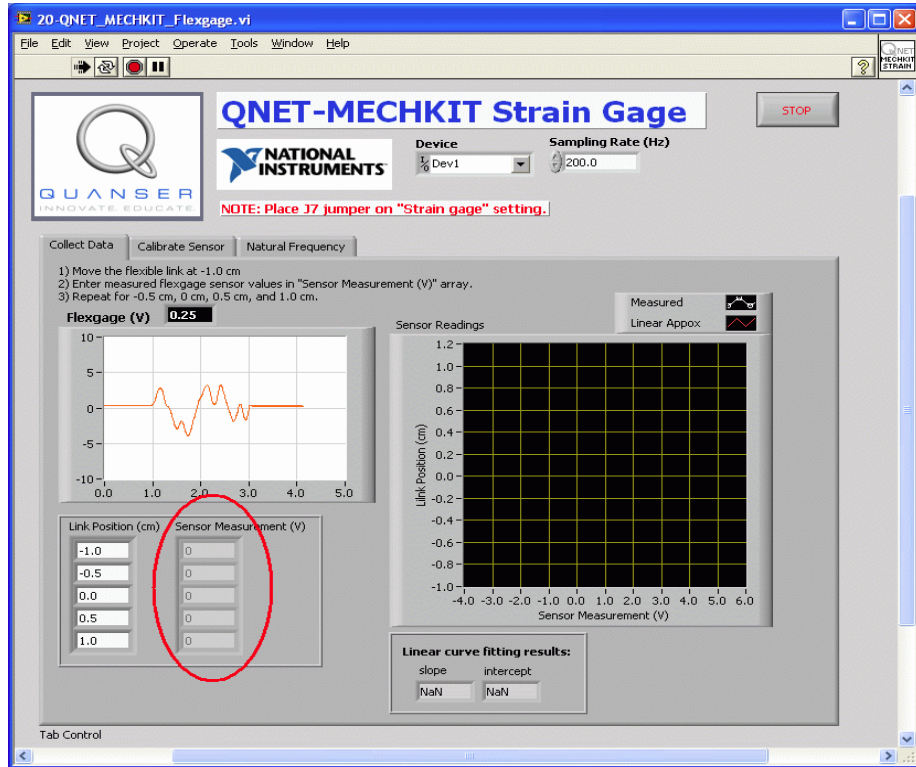
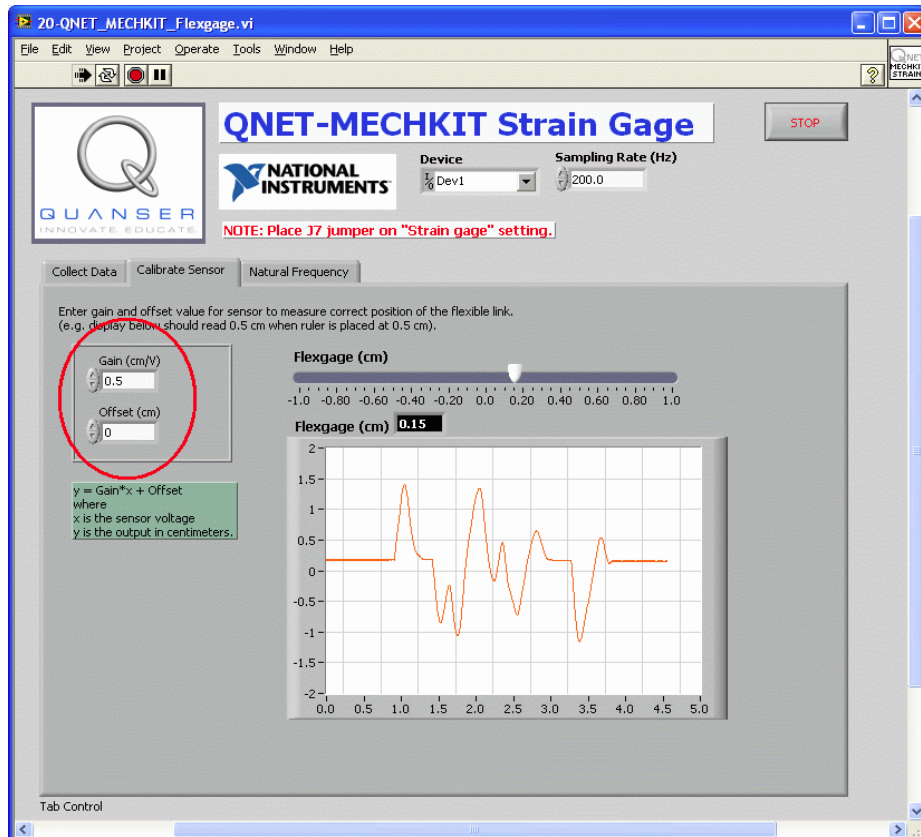
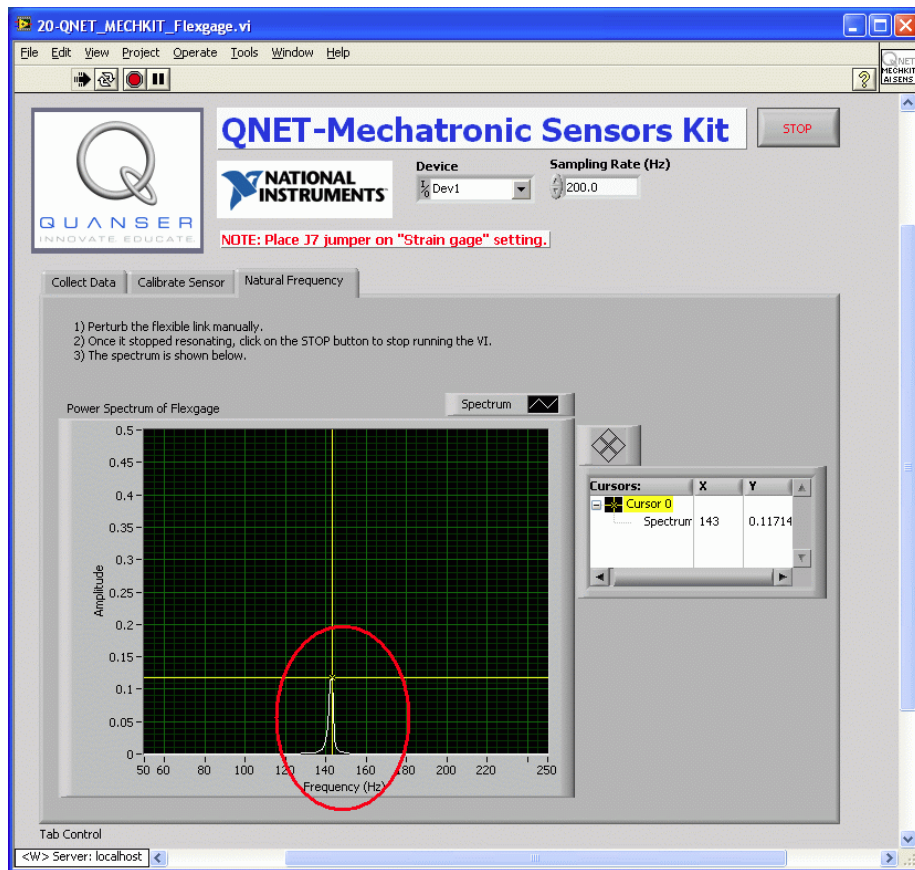

Figure 3.2: Collecting flexgag data
Figure 3.3: Calibrating the strain gage sensor
Figure 3.4: Finding natural frequency of flexible link
The virtual instrument used to collect data using the strain gage is shown in Figure 3.2. The virtual instrument used to calibrate strain data is shown in Figure 3.3.
The virtual instrument used to determine the natural frequency of the flexible link is shown in Figure 3.4.
5. Enter the strain gage voltage reading in the Sensor Measurement (V) array indicated in Figure 3.2).
2. Select the Calibrate Sensor tab and enter the slope and intercept obtained in Section 3.3 into the Calibration Gain and Offset controls shown in Figure 3.3, below. When the link is moved, the slider indicator in the VI should match up with the actual location of the flexible link on the QNET module.
3. Manually perturb the flexible link and stop the VI when it stops resonating (after about 5 seconds). The spectrum should then load in the chart, as shown in Figure 3.4 (the value shown is incorrect).
The virtual instrument used to collect data using the strain gage is shown in Figure 3.2. The virtual instrument used to calibrate strain data is shown in Figure 3.3. The virtual instrument used to determine the natural frequency of the flexible link is shown in Figure 3.4.